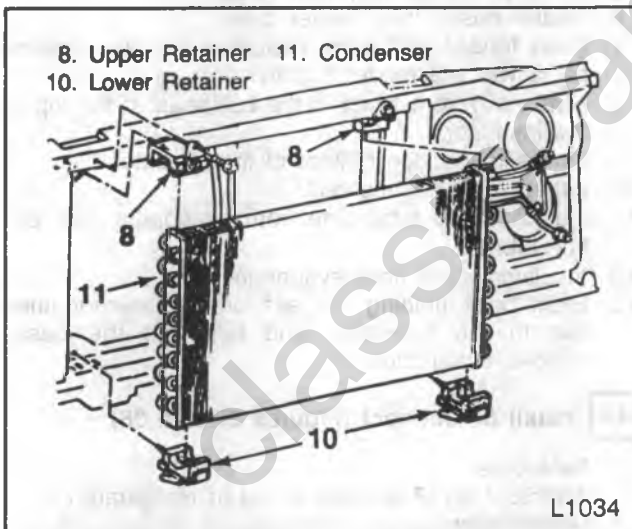

Figure 36—Condenser Replacement
7. Condenser to radiator support screws (figure 36).